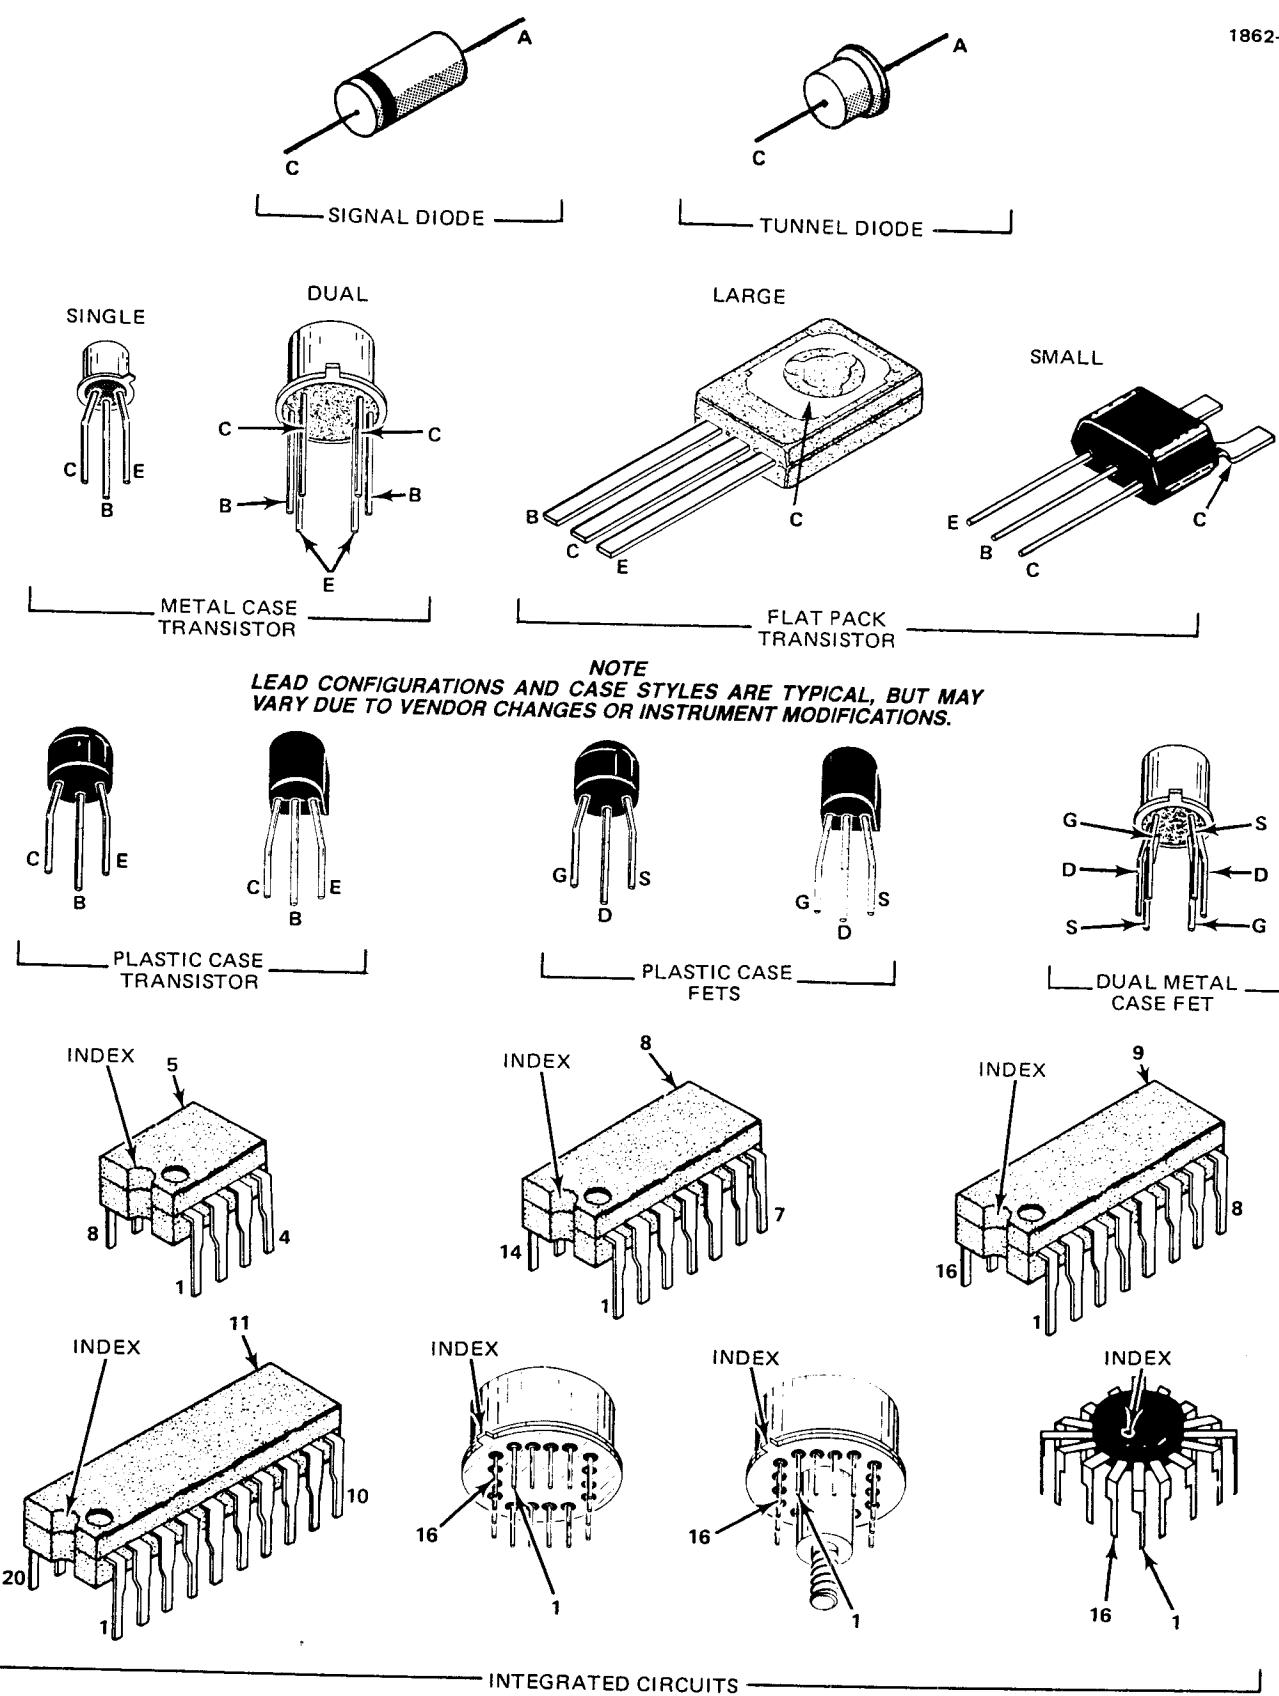

Fig. 4-3. Lead configurations of semiconductors used in this instrument.
**Semiconductor Lead Configuration.** Fig. 4-3 shows the lead configuration for the semiconductors used in this instrument, as viewed from the bottom of the semiconductors.
IC's (integrated circuits) can be checked with a voltmeter, test oscilloscope, or by direct substitution. A good understanding of circuit operation is essential to troubleshooting circuits using IC's. Use care when checking voltages and waveforms around the IC's so that adjacent leads are not shorted together. A convenient means of clipping a test probe to the 14- and 16-pin IC's is with an IC test clip. This device also doubles as an extraction tool. The lead configuration for the semiconductors used in this instrument are shown on Fig. 4-3.